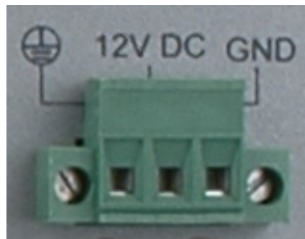

Figure 3-21: Power Input Terminal Block Pinout Location
- CN Pinouts:** See **Table 3-5** and **Figure 3-21**